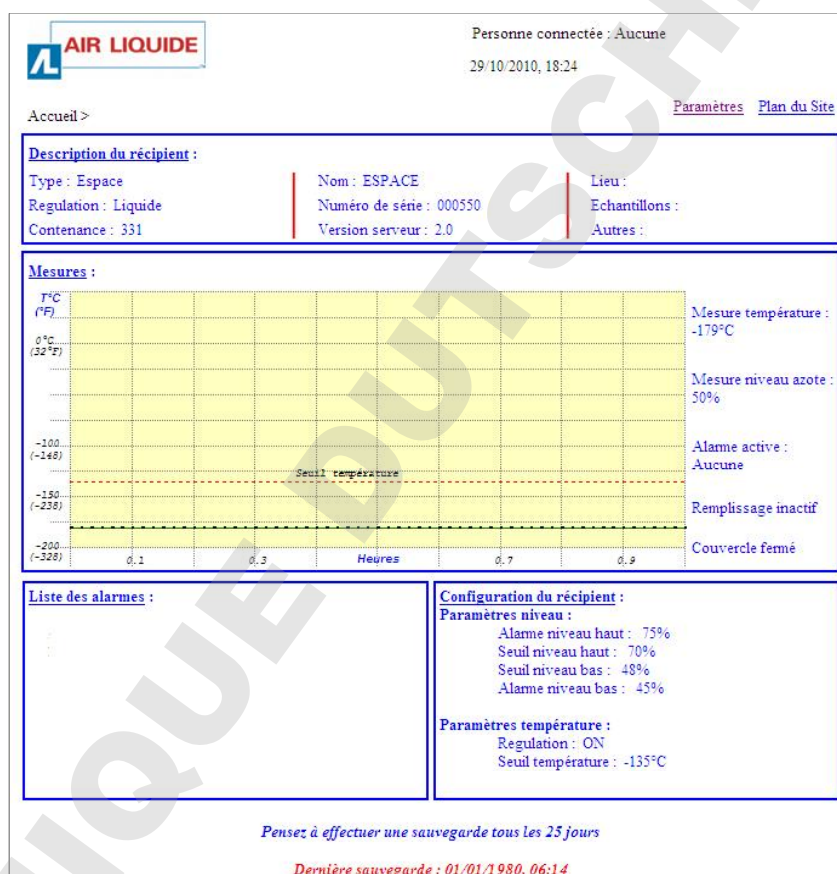

Figure 14-7: integrated web server Home page.
2. With the internet browser displaying the integrated web server's Home page (see Figure 14-7), click on Settings.